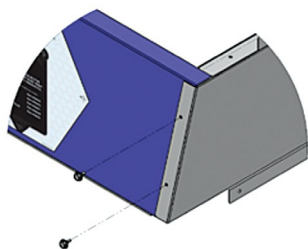

Figure 6: Secure rear panel to side panel with supplied No. 10 x 3/8" screws
5. Secure the rear panel to the side panel using the supplied No. 10 x 3/8" screws in the aligned pre-drilled holes as shown in **Figure 6**.